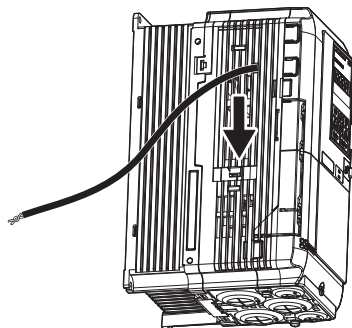

Figure 4.25 Reattaching the Connector Cover (2)
4. Slide the connector cover back into place as shown in Figure 4.25.